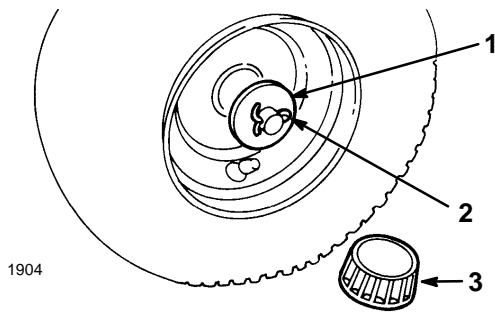

Figure 1
3. Slide the flat washer onto the axle. Insert cotter pin through the axle and bend the ends of the pin apart (Fig. 1). If cotter pin does not fit, remove shim washer(s) as required.
4. Push the hub cap (Fig. 1) onto the end of the axle.